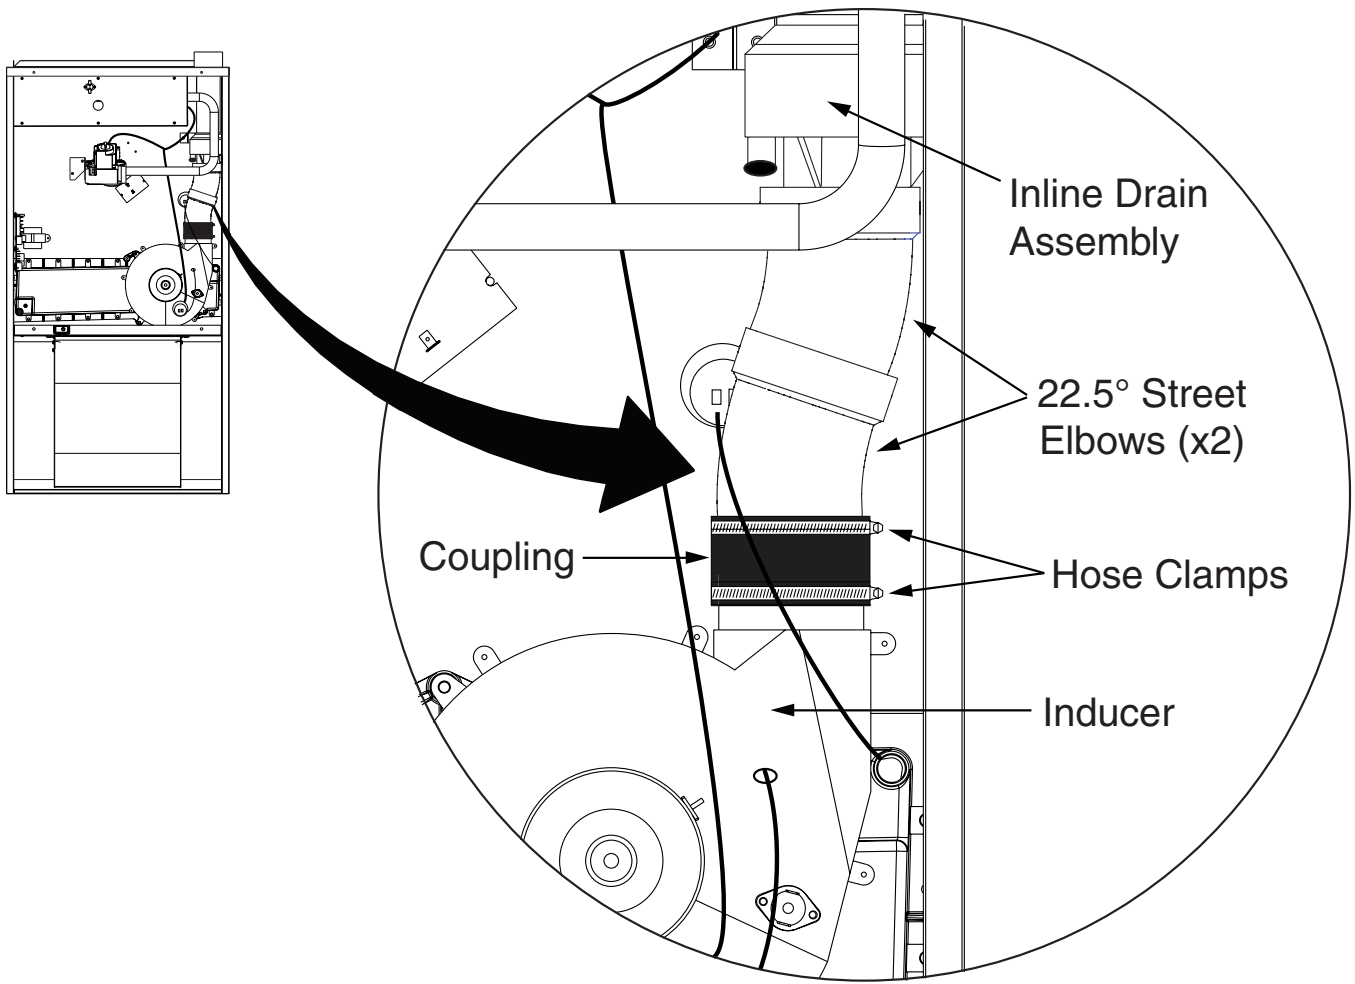

Figure 1. Coupling Installation
3. Loosen the hose clamps holding the offset coupling to the inducer and to the inline drain assembly and remove the coupling. See Figure 1.